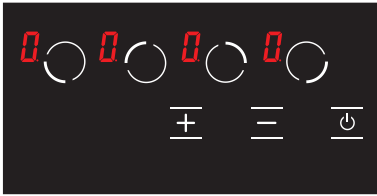

Figure 19
3. The **0** icon is displayed on all displays. (see Fig. 19) The **0** and **H** icons are displayed alternatively if any hob is hot.